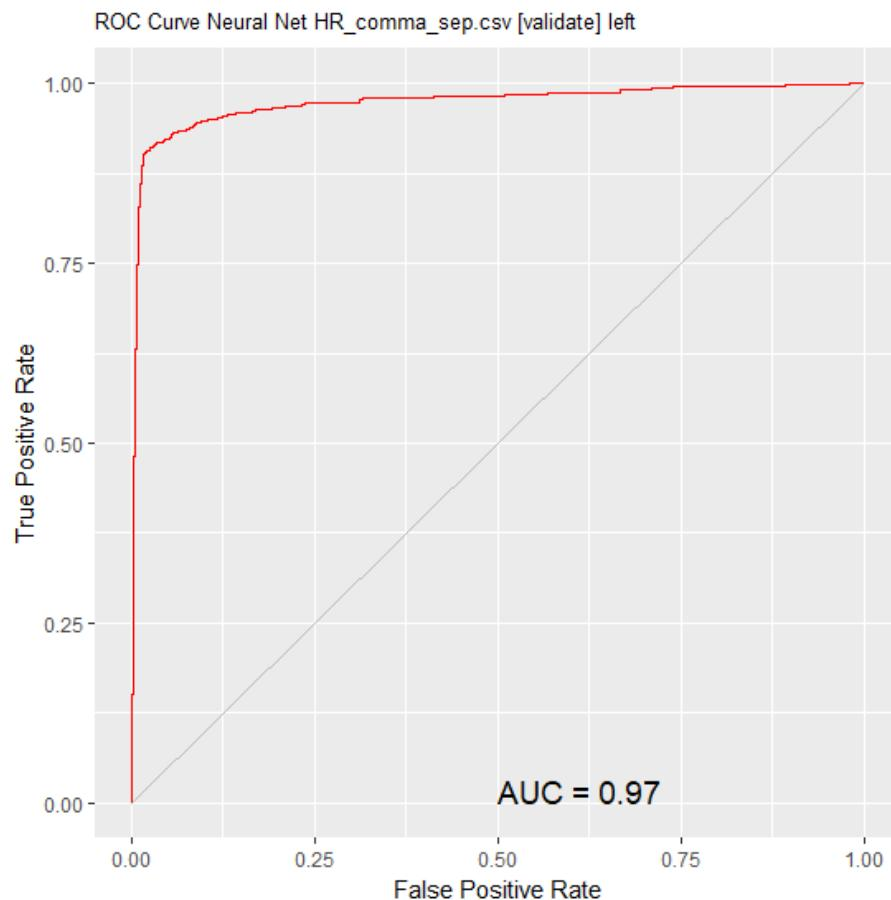

Figure 8
1. **ROC chart has been generated by Rattle tools: (Figure 8)**